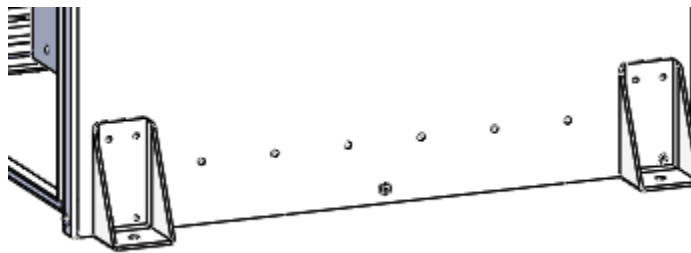

FIGURE 2: EXTERIOR PAD MOUNTING FEET FOR ENCLOSURE
- (Optional) Install Exterior Pad Mounting Feet [P-007009] onto enclosure using included hardware in kit and manufacturer's instructions (Figure 2).